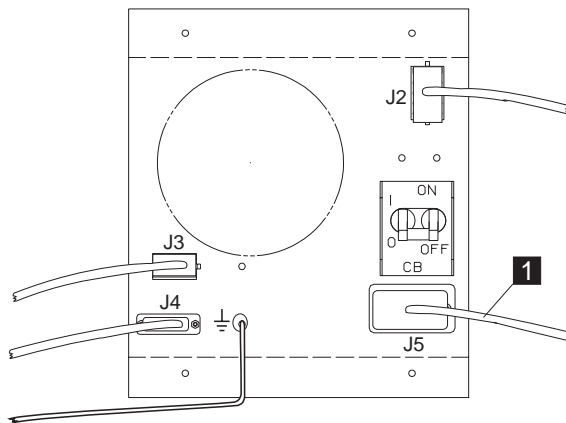

Figure 4-7. AC Power Plug
2. \_\_\_\_ Plug the power cable **1** to connector J5 of the ac power supply (see Figure 4-7).